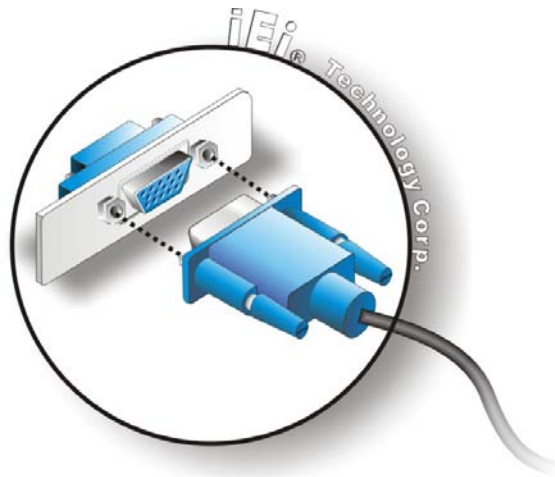

Figure 4-18: VGA Connector
- Step 3: Insert the VGA connector** Once the connectors are properly aligned with the insert the male connector from the VGA screen into the female connector on the KINO-G410. See **Figure 4-18**.